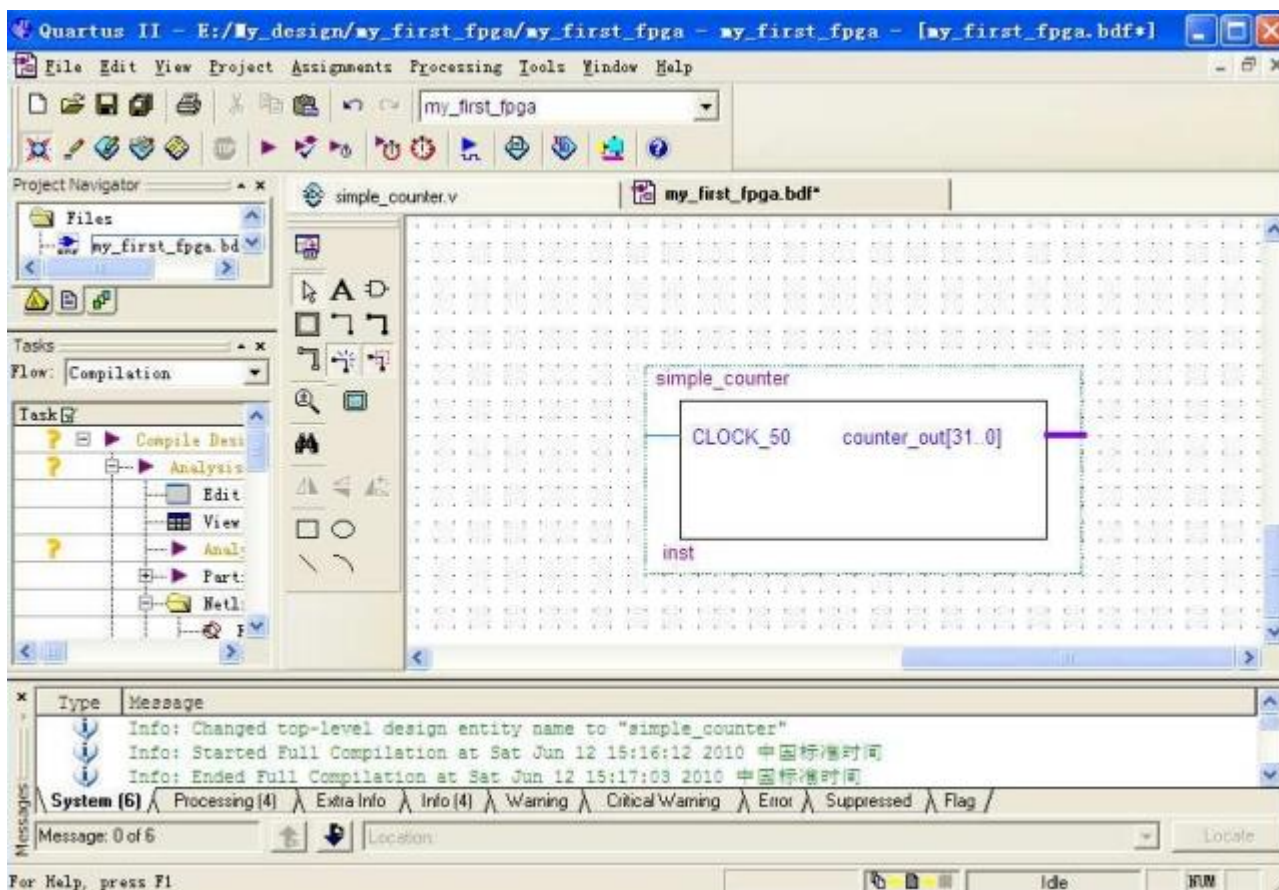

Figure 3-7 Placing the simple_counter symbol
17. Move the cursor to the BDF grid; the symbol image moves with the cursor. Click to place the simple_counter symbol onto the BDF. You can move the block after placing it by simply clicking and dragging it to where you want it and releasing the mouse button to place it. See **Figure 3-7**.